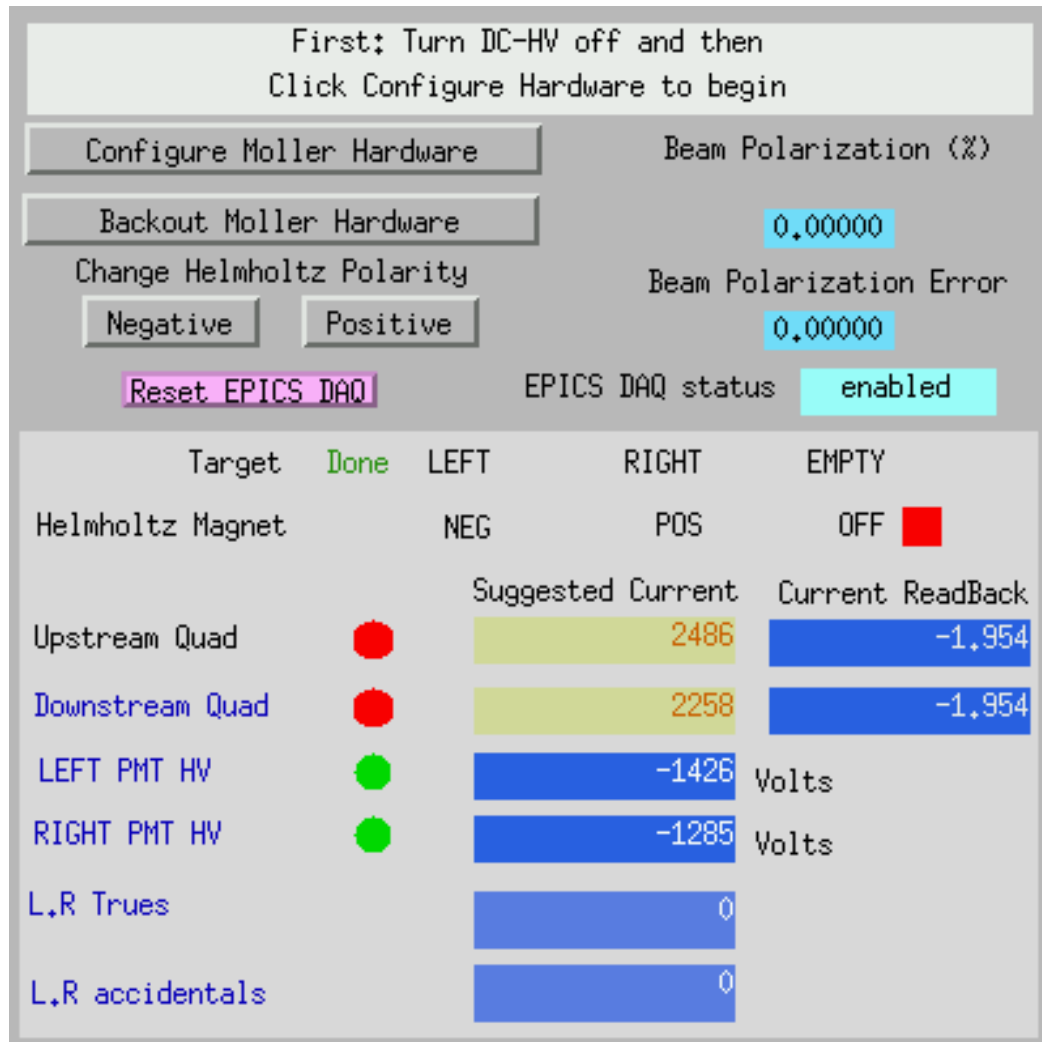

Figure 1: The Möller Epics screen of Möller hardware set up.
- (b) Click "*Configure Moller Hardware*" button, near the top of the GUI, Figure 1. This will start the following sequence of events: